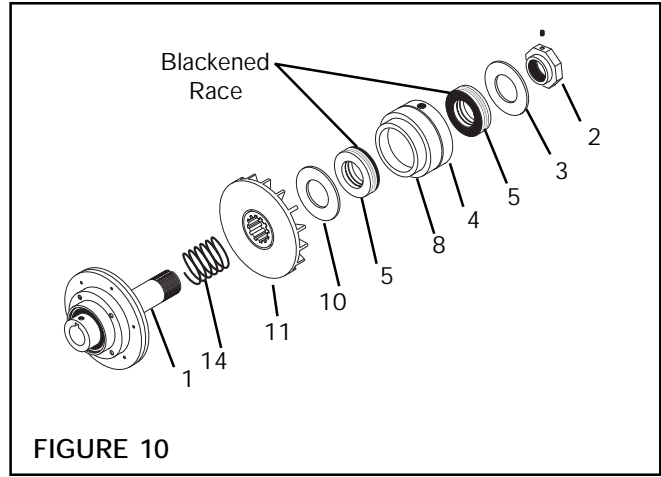

FIGURE 10
18. Slide the Compression Spring (Item 14) onto the Hub (Item 1) (See Figure 10).
19. Lubricate the Hub (Item 1) spline with a thin coating of Never-Seez®; then, slide the Friction Disc (Item 11) onto the Hub (See Figure 10).
20. Slide the new Fiber Washer (Item 10) onto the Hub (Item 1) (See Figure 10).
21. Slide the first new Thrust Bearing (Item 5) with the blackened race facing the Piston/Air Chamber Assembly into the Air Chamber (Item 8) (See Figure 10).
22. Slide the Air Chamber (Item 8) and Piston (Item 4) onto the Hub (Item 1) (See Figure 10).
23. Slide the second new Thrust Bearing (Item 5) with the blackened race facing the Piston/Air Chamber Assembly into the Piston (Item 4) (See Figure 10).
24. Slide the Thrust Washer (Item 3) onto the Hub (Item 1) (See Figure 10).
25. Screw the Adjustment Nut (Item 2) onto the Hub (Item 1) (See Figure 10).